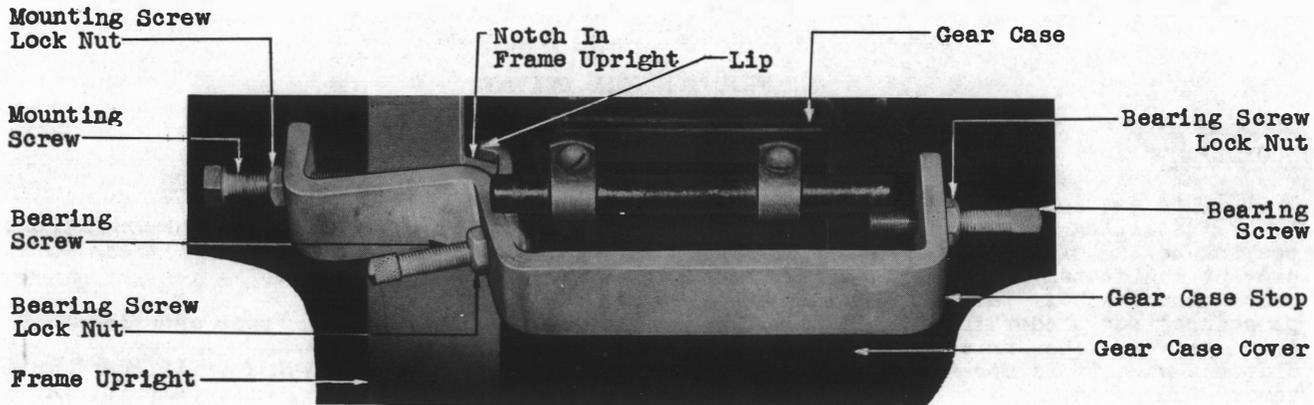

Fig. 1 - D-159143 Gear Case Stop
3.02 Mounting Gear Case Stop: Back off the lock nuts with the No. 245 wrench and back off the mounting screw with the No. 245 wrench and the bearing screws with the fingers until the tips of the screws are flush with the frame of the stop. Place the gear case stop over the frame upright with the lip of the stop in the space between the upright and the gear case. Slide the stop up or down as required until it is so located that when the bearing screws are tightened, they will engage the back of the gear case and the gear case cover as shown in Fig. 1. In some cases it may be necessary to locate the stop in the notch in the frame upright in order to provide a surface for the bearing screws. In these cases, it may be necessary in order to increase the effective length of the mounting screw to place the mounting screw lock nut on the inside of the gear case stop. When locating a stop, do not permit the bearing screw to come into contact with a gear case cover mounting screw.